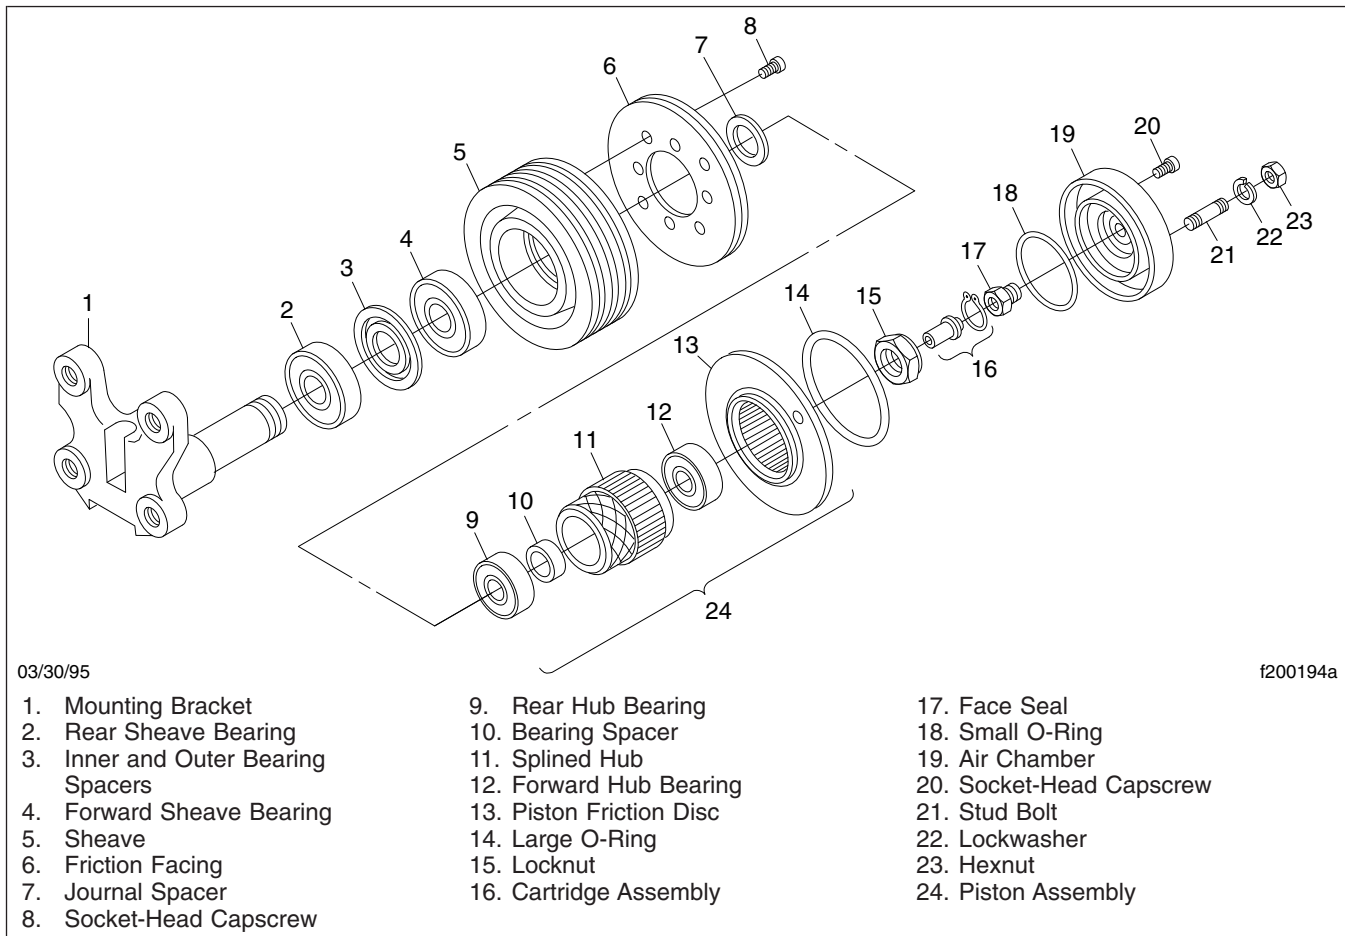

Fig. 8, Horton Advantage Fan Clutch Components
- 9.1 Check for a leak at the bleed hole on the fan pilot. Air leakage means that the cartridge assembly (Fig. 8, Ref. 16) or face seal (Ref. 17) is damaged.